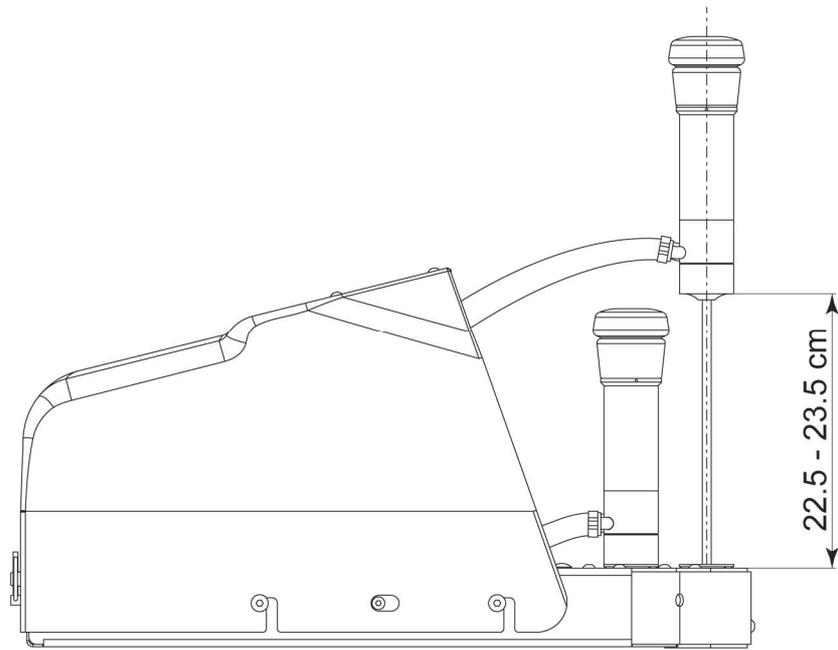

Figure 1: Measure the cup cords
6. Measure the cup cords (fig. 1) and make sure the length is between 22.5 and 23.5 cm (8.86 in and 9.25 in).